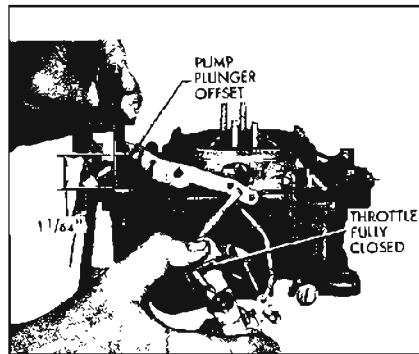

Figure 3-67—Checking Pump Plunger Adjustment
10. Pump Plunger Adjustment. Push fast idle cam to full down position and back out throttle stop screw until primary throttle valves can be fully closed. With throttle held closed and pump rod in center hole of lever, measure vertically from under side of pump plunger offset to air horn casting. See Figure 3-67. Measurement should be 1-1/64" on 401 engine carburetors or 7/8" in the center (No. 3) hole on 300 engine carburetors. After adjusting, pump rod must be moved to the inner (No. 1) hole on synchro-mesh transmission cars.